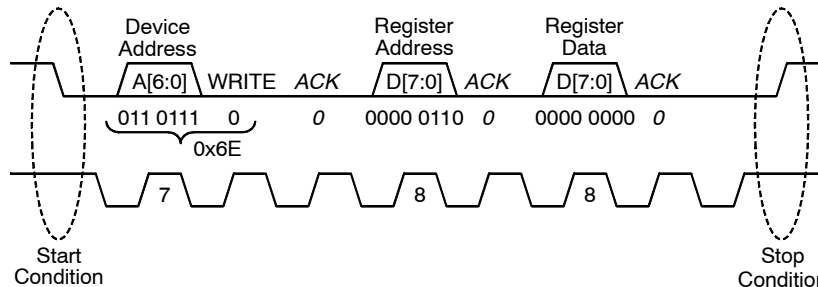

Figure 21. I²C Write Command
Figure 21 shows an I²C write operation. Write transactions begin with the master sending an I²Cs start sequence followed by the seven bit slave address (NOA3301 = 0x37) and the write(0) command bit. The NOA3301 will acknowledge this byte transfer with an appropriate ACK. Next the master will send the 8 bit register address to be written to. Again the NOA3301 will acknowledge reception with an ACK. Finally, the master will begin sending 8 bit data segment(s) to be written to the NOA3301 register bank. The NOA3301 will send an ACK after each byte and increment the address pointer by one in preparation for the next transfer. Write transactions are terminated with either an I²C STOP or with another I²C START (repeated START).